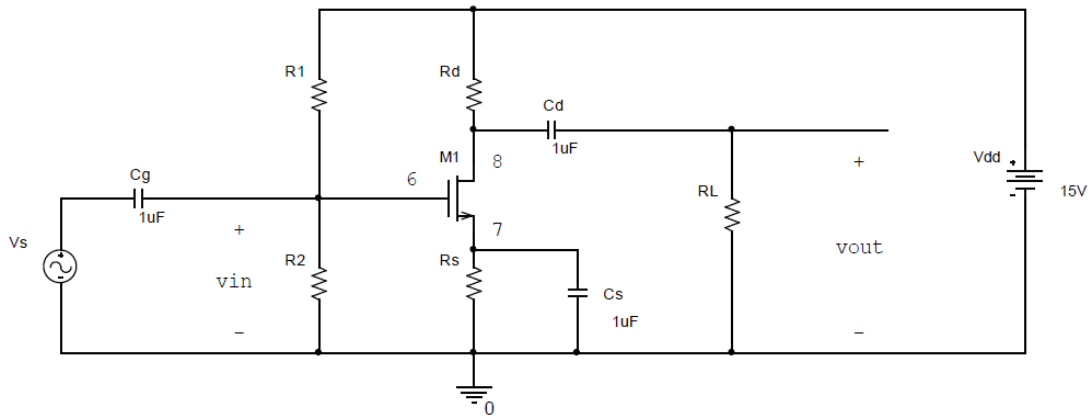

Figure 8-5 MOSFET Common-source Configuration
- Before connecting the circuit shown in Figure 8-5, prepare the power supply for V_{DD} to ensure a DC voltage of 15V and adjust the function generator for V_s to a voltage level of approximately 100mVp-p at a frequency of 1kHz.